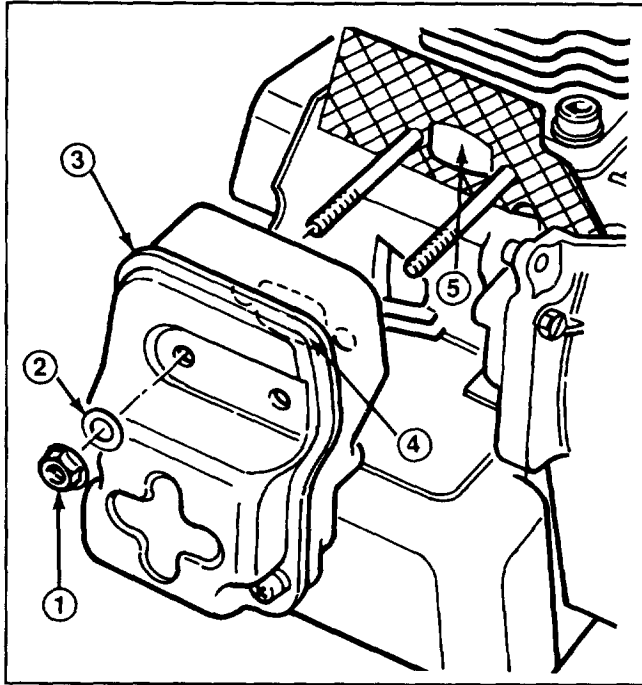

Figure 14
1. Engine cover 2. Screws (2)
2. Remove two (2) nuts and (2) washers securing muffler to engine (Fig. 14).
3. Clean any carbon build-up from muffler port (Fig. 14).
4. Pull recoil starter slowly to rotate the engine crankshaft until the piston totally covers the exhaust port (Fig. 14). Clean the exhaust port area by using a clean, flat piece of hard wood. Remove all loose particles.